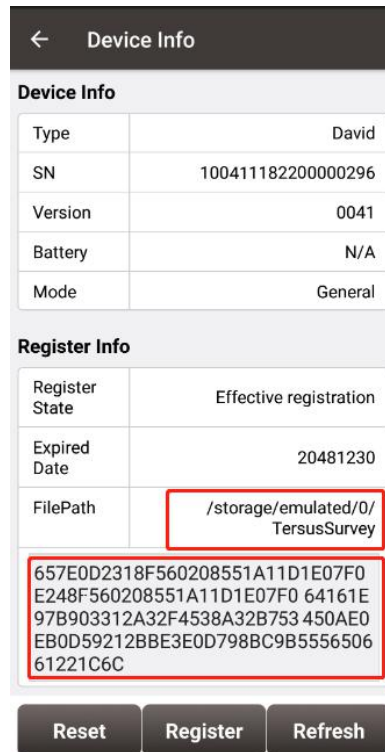

Figure 3.15 Device Information interface on Nuwa app
3. Or connect the David with Nuwa app, click [Device] -> [Device Info] to get below interface as shown in Figure 3.15. Ensure the reg.txt file is copied and pasted to the FilePath folder, the auth code is shown in the window below, click [Register] to complete the registration.